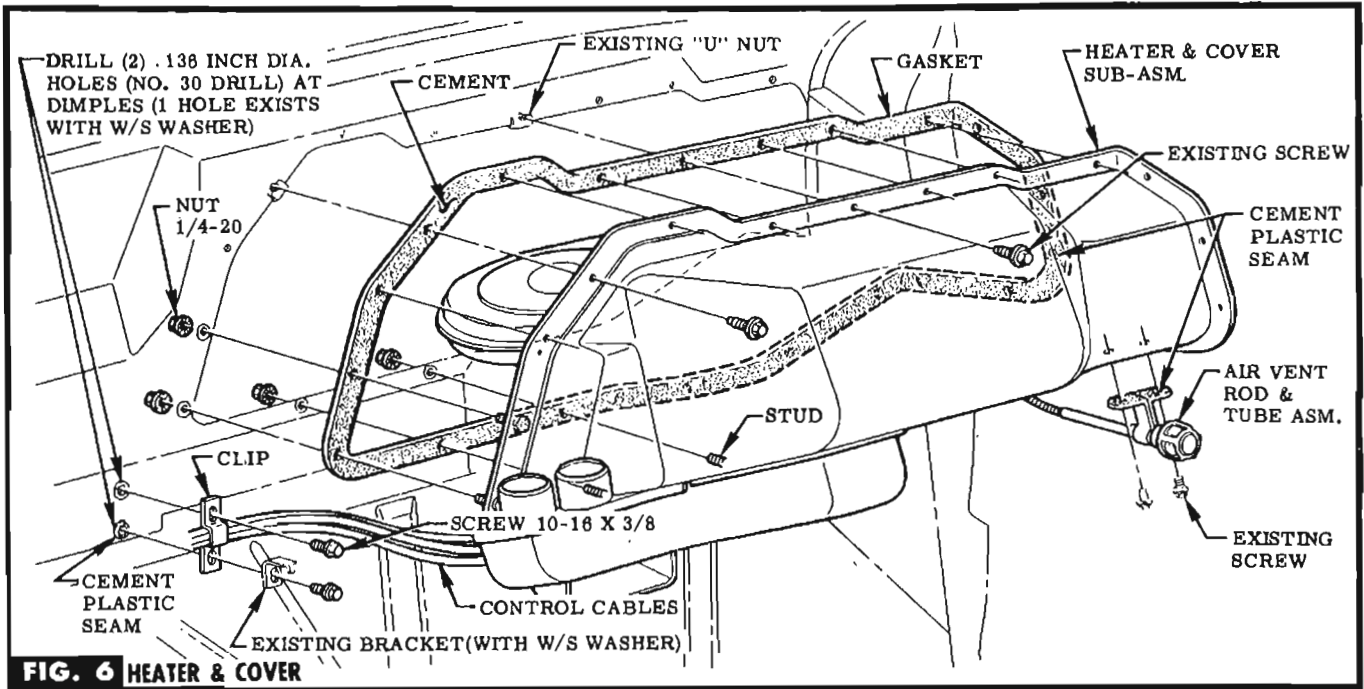

FIG. 6 HEATER & COVER
STEP 29 CEMENT GASKET TO COVER & APPLY PLASTIC SEAM CEMENT TO GASKET AT ATTACHING HOLES & TO DASH AT STUD HOLES. ATTACH COVER TO DASH PANEL WITH EXISTING "J" NUTS, RETAINED SCREWS & PROVIDED NUTS (IN BAG B). SEE FIG. 6.
STEP 30 APPLY PLASTIC SEAM CEMENT BETWEEN AIR VENT ROD & TUBE ASM. & COVER, THEN ATTACH WITH RETAINED SCREWS. SEE FIG. 6.
HOLE. SEE FIG. 6.
STEP 32 IF W/S WASHER DOES NOT EXIST, LOCATE DIMPLES & DRILL HOLES. SEE FIG. 6.
STEP 33 APPLY PLASTIC SEAM CEMENT TO HOLES & ATTACH CONTROL CABLES TO DASH PANEL WITH CLIP & SCREWS PROVIDED (IN BAG A). **NOTE** If W/S washers exist, attach retained bracket to bottom of clip. SEE FIG. 6.